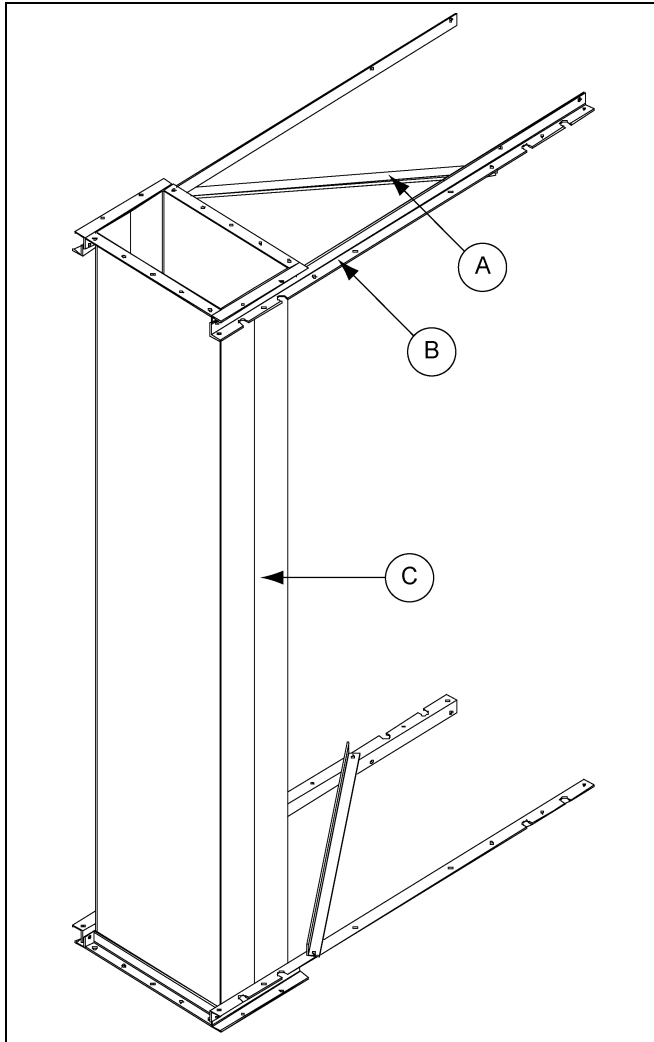

Figure 7A Painted Trunking
**NOTE:** *Along with the inspection section, you will receive installation hardware and two (2) tie angles. Units containing 42" diameter pulleys and larger, will include a cross tie on the legs, which will be included. (See Figure 6B below and Figure 7A on Page 24.)*